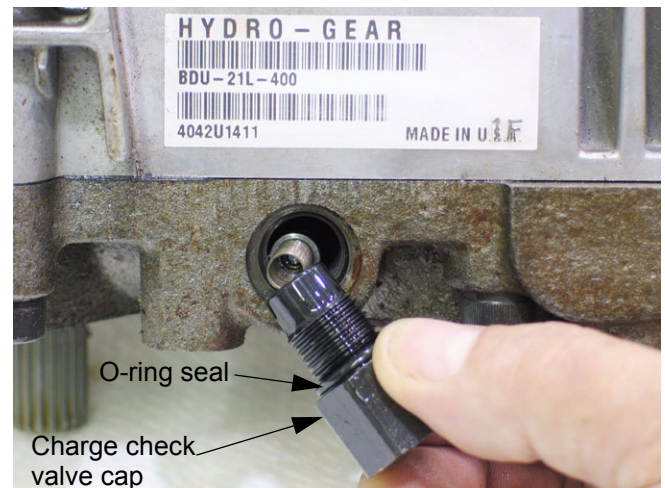

Figure 5.12
- 5.12. The charge check valves can be removed using a 5/8" wrench. See Figure 5.12.